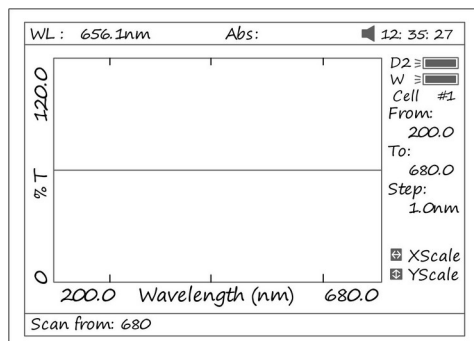

Fig 42
1. Press [F1] to setup, input the start wavelength, and end wavelength by pressing the numeric keypad (Fig 42). Note: This instrument scans from high to low wavelength. Browse and select the items of scan step and scan speed by pressing [ $\wedge$ ] or [v].